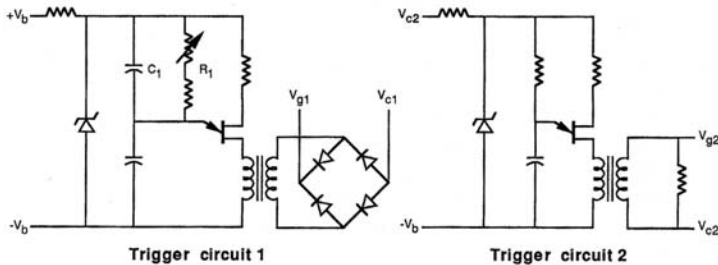

FIGURE 7-1 Summary of Jones switch PWM chopper controller characteristics.
The easiest way to vary the DC voltage delivered to a DC motor is to divide its steady, nonvarying DC component into smaller pieces (see Figure 7-1). The average of the number or size of these pieces will be a resultant DC voltage that the motor “thinks” it is receiving. At the top left of Figure 7-1, the value of the voltage delivered to the motor is
The Jones chopper circuit shown in the middle of Figure 7-1, adapted from an early GE SCR manual, is one of the simplest variations. Earlier, similar PWM circuits were also built in transformerless style using transistors. The Jones chopper is easy to look at and analyze, and its basic lessons apply to all PWM controllers.
- It “smooths” motor current I_m and enables it to continue to flow when SCR_1 is not conducting (top of Figure 7-1), and prevents the inductive-current-generated high-voltage spikes, which could potentially damage the transistors, from appearing across the motor when SCR_1 is turned off.
- Diode D_1 prevents the L_1 - C_1 combination from oscillating. Other than the SCRs and diodes, the key circuit elements are the center tapped autotransformer (both windings have the same number of turns, inductance, etc.), whose inductance is simply labeled L_1 in Figure 7-1, the capacitor labeled C_1 , and the combined series motor and external inductance labeled L_m .
The frequency of the chopper is controlled by the R_1 - C_1 combination (where R_1 is the sum of the fixed and variable resistors in that branch of the circuit) in trigger circuit 1 shown at the bottom left of Figure 7-1. In this case, a unijunction transistor forms the heart of a relaxation oscillator whose period is controlled by the RC time constant such that